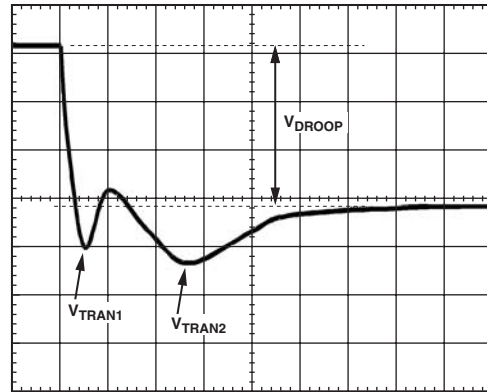
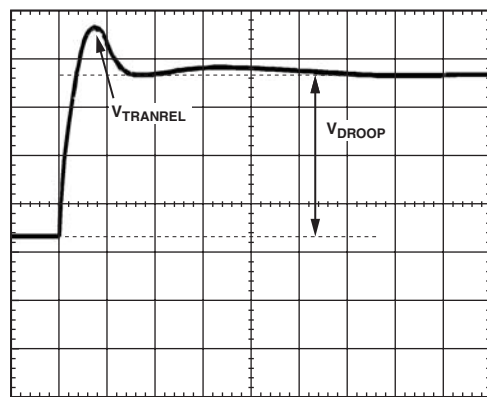

Figure 9. Transient Setting Waveform
Figure 10. Transient Setting Waveform
form that may have two overshoots and one minor undershoot (see Figure 9). Here,  $V_{DROOP}$  is the final desired value.
21. For load release (see Figure 10), if  $V_{TRANREL}$  is larger than  $V_{TRAN1}$  (see Figure 9), you do not have enough output capacitance. You will either need more capacitance or to make the inductor values smaller (if you change inductors, you need to start the design over using the spreadsheet and this tuning procedure).